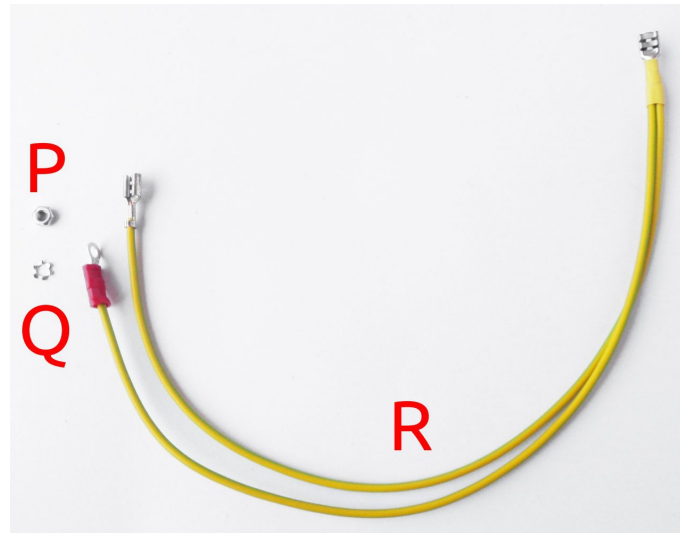
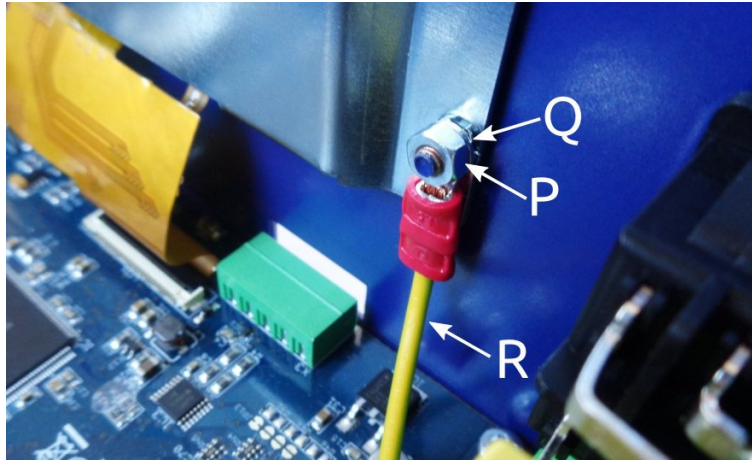

Fig. 5: r3B3 PE mounting kit
Fig. 23: r3B3 PE wire attachment to the back of the display
- The AUX-PS module (r3B5) is missing one mounting hole (above the AC inlet). Therefore for PE connection to the chassis a separate wire is used (Item R, Fig. 5)
For the r3B3 version, you can now connect the PE wire (item R, Fig. 5) to the AUX-PS module and attach one end to the TFT touchscreen display using item P and Q (Fig. 23). Note that item J in this case is not fixed on the other side to the AUX-PS module, but only touches it.